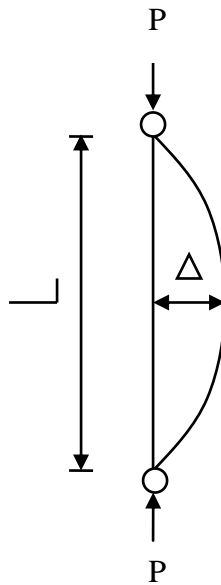

Fig. 4.0
5. (a) A prismatic bar with hinged ends, Fig. 4.0, is subjected to the action of axial force. Find the buckling load by assuming the initial deflection of the bar is zero. Also explain the physical meaning of the equation, if $n = 1$.